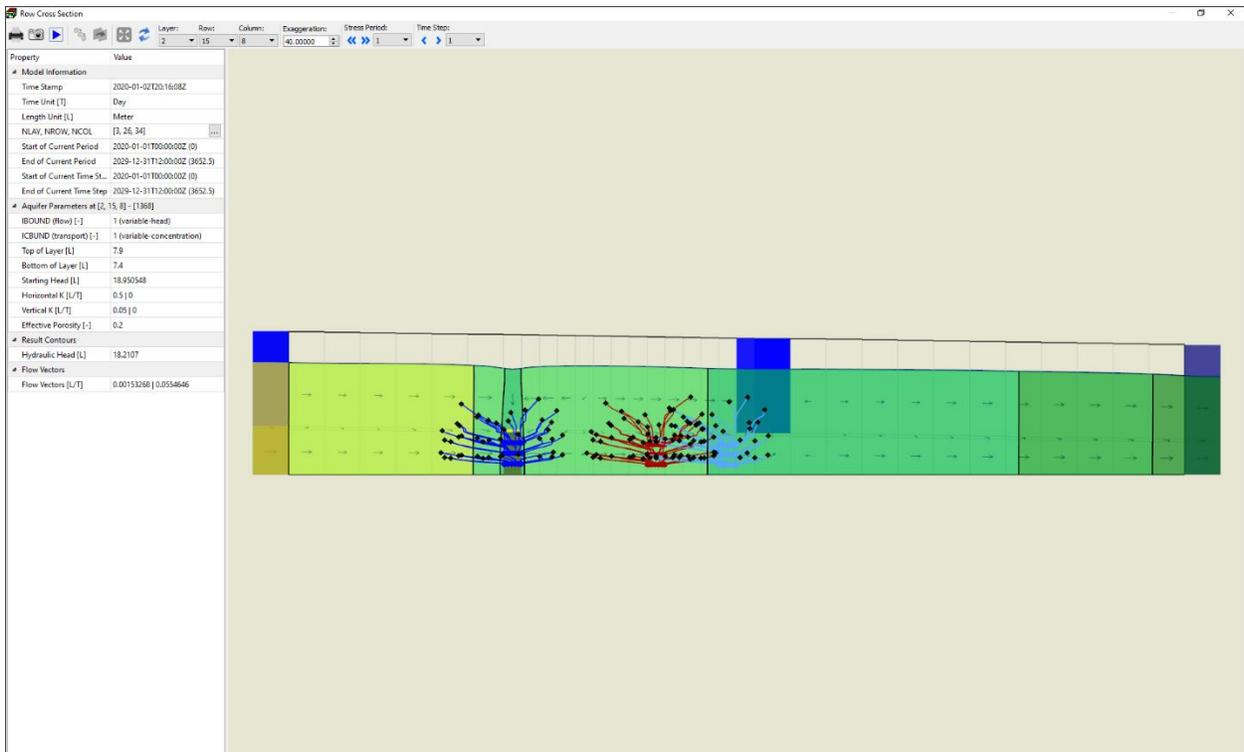

Figure 18. The projection of 10-year capture zones of pumping wells on the Row Cross Section window
- Figure 18 shows the projection of all pathlines and end points as well as flow vectors, color-filled head contours, and groundwater surface on Row 15. The blue-shaded cells near the center of the cross-section are river cells. The leftmost and rightmost cells are fixed-head boundary cells.